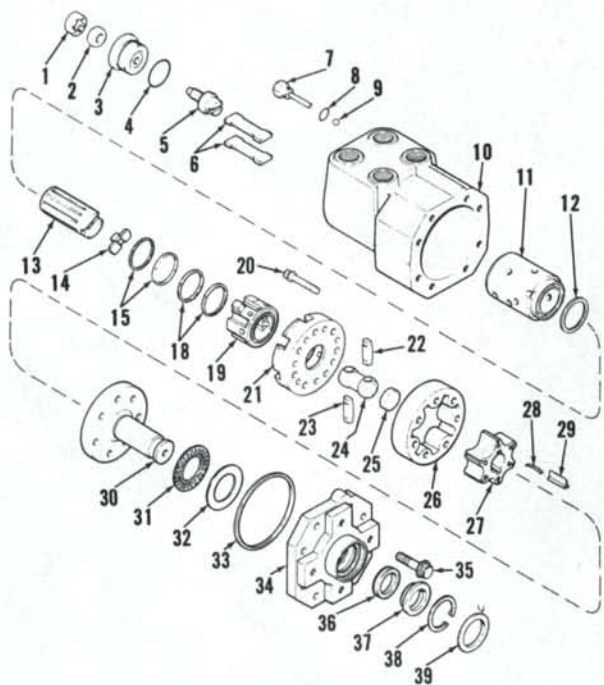
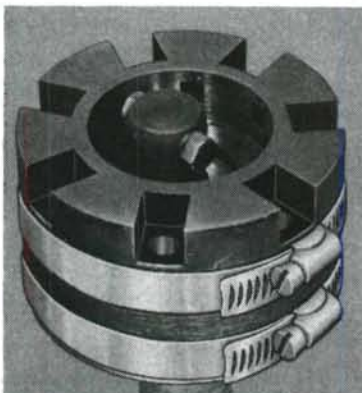

Fig. 30—Exploded view of Ross power steering hand pump.
Fig. 33—View showing positioning of worm gear clamps to aid in assembly of input shaft assembly. Refer to text.
33. OVERHAUL. To disassemble the removed hand pump refer to Fig. 30 and proceed as follows: Remove dirt seal, mounting plate and hydraulic fittings. Remove and discard outer shaft seal (39), then remove snap ring (38). Unbolt and remove cover (34), then remove seal ring (33), seal spacer (37) and inner shaft seal (36) from cover. Remove thrust washer (32), thrust needle bearing (31) and carefully withdraw input shaft assembly (items 18 through 30). Remove drive link (14) from valve spool (13), then remove seal ring (15) and washer (12) from valve sleeve (11) and withdraw valve spool (13) from pump body. Remove cap (1), remove locknut 2, then push adjusting screw (5) through pump plug and remove. Remove pump plug (3) and discard "O" ring (4).
Check rotor and stator clearance as follows: Position lobe of rotor in valley of stator shown in Fig. 32. Center opposite lobe on crown of stator, then using a feeler gage, measure clearance between rotor tip and stator crown. If clearance exceeds 0.007 inch (0.178 mm), rotor and stator assembly must be renewed. Install spacer (25—Fig. 30), then install drive link with flat sides of pin (22 or 23) aligned with slot in rotor. Install manifold (21) flat side toward rotor-stator assembly. Place two worm-type hose clamps on input shaft assembly. One clamp spanning the input shaft and stator; the other clamp spanning the stator and manifold as shown in Fig. 33. This will ensure that the manifold and stator have a common center before cap screws are installed and tightened. Remove the two ¼ inch aligning studs, then install and tighten the seven manifold cap screws to 10-14 ft.-lbs. (14-19 N·m) torque. Install seal
assembly (18—Fig. 30), Teflon side out, into open end of commutator (19). Align flat surfaces of drive link with slot in commutator and install commutator into manifold, seal toward drive link.
Install pump plug (3) with new "O" ring (4) into pump body and tighten to 40-50 ft.-lbs. (54-68 N·m) torque. Install adjusting screw (5) with new "O" ring through pump plug (3). Refer to Fig. 34 and install two torsion blades (6—Fig. 30) into valve spool (13).
Hold adjusting screw in position and install spool assembly, flat end first, into pump body aligning the torsion blades in spool with slot in adjusting screw. Place drive link (14—Fig. 30) flat side down into slot in valve spool. Insert new seal (15) into valve sleeve, Teflon side outward. Carefully install input shaft assembly into pump body aligning drive link (14) with slot in commutator. When correctly installed, input shaft assembly will be approximately 1/8 inch below surface of pump body. Place thrust bearing (31) over shaft, then install original thrust washer, if undamaged, or new washer of equal thickness. Washers are available in thicknesses from 0.035 to 0.083 inch (0.89 to 2.11 mm) in 0.006 inch (0.15 mm) increments. Install pump cover (34) with new seal ring (33) and tighten cap screws to 10 ft.-lbs. (14 N·m) torque.
34. To set centering pressure of hand pump, install a 3000 psi (21000 kPa) gage on each hydraulic steering cylinder line. Start and run tractor at 750 rpm until fluid is at operating temperature. Turn pump adjusting screw (5—Fig. 30) until pressure on both gages is the same, then tighten locknut (2) to 12-18 ft.-lbs. (16-24 N·m) torque. Bleed power steering system as outlined in paragraph 25.